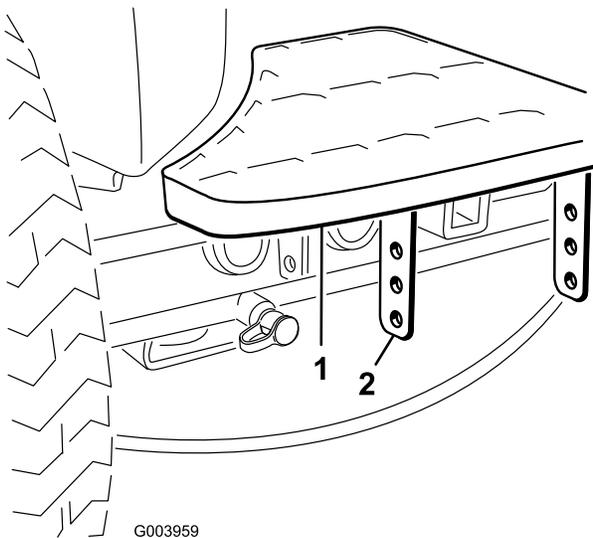

Figure 2
1. Remove the 2 bolts and nuts securing the step brackets to the traction-unit frame (Figure 2)